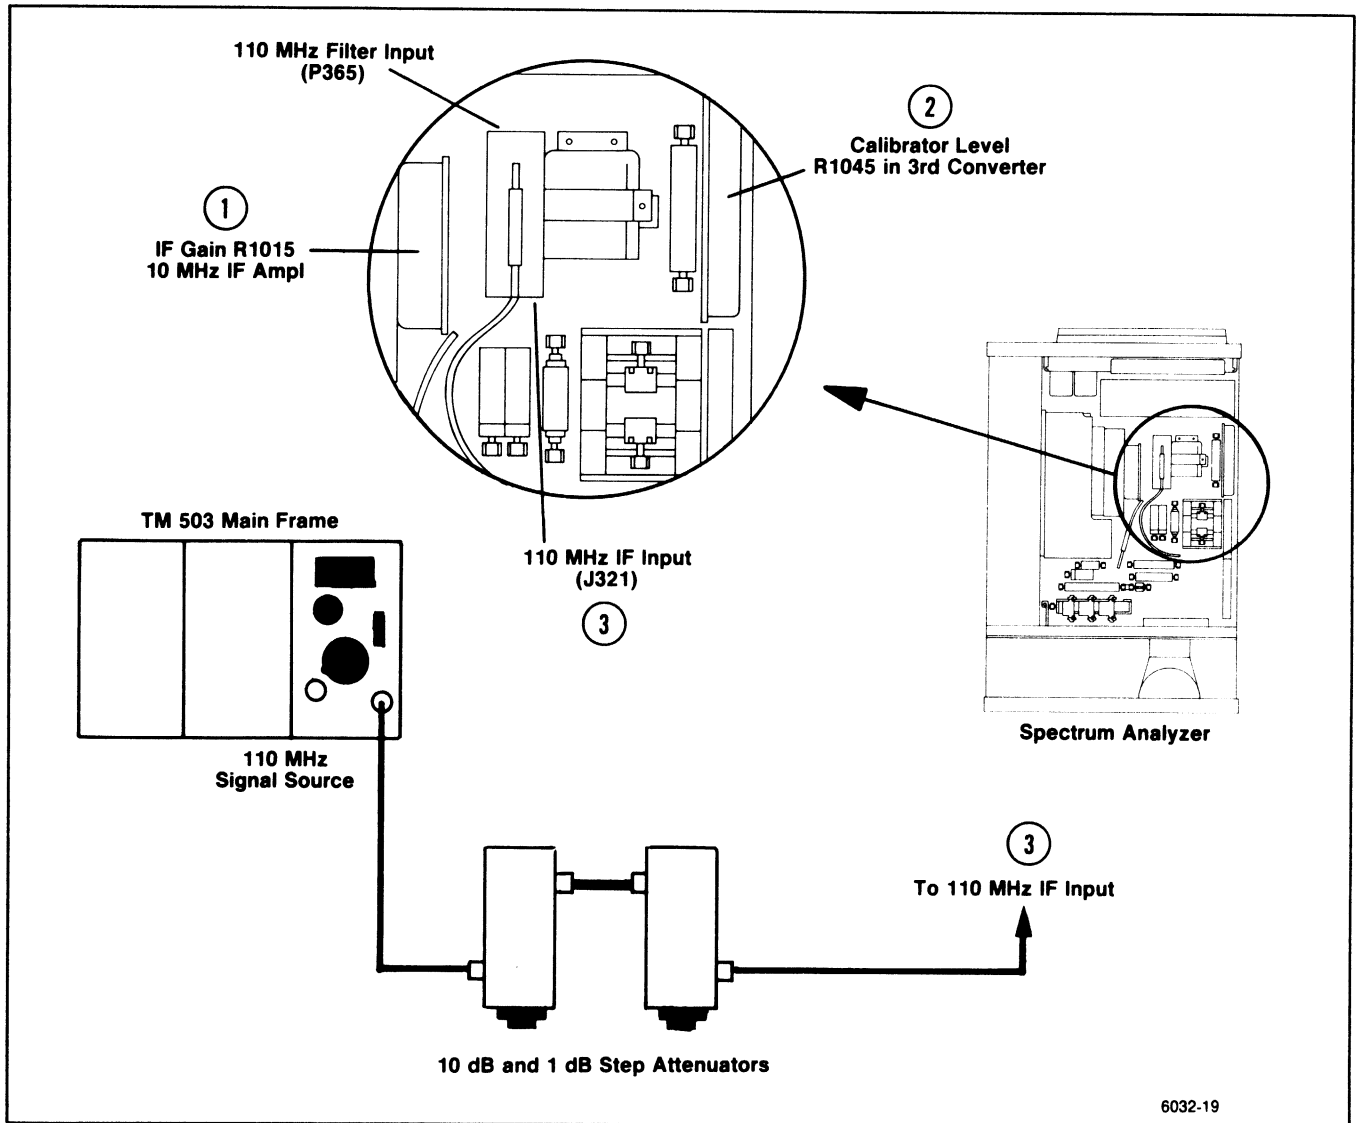

Figure 5-21. IF gain test setup, and adjustment and connector locations.
f. Adjust Cal Level R1041, in the 3rd converter (#2 in Figure 5-21) for no displacement between the CAL OUT signal and the reference (VIEW B and SAVE A displays).
a. Test equipment setup is shown in Figure 5-21. Set the RESOLUTION BANDWIDTH to 100 kHz, REF LEVEL to -20 dBm, and apply a -21.5 dBm, 110 MHz signal, through step attenuators, to the input (J365) of the 110 MHz filter.
d. Set the step attenuators for 21 dB attenuation and apply the 110 MHz signal to the input (J321) of the 110 MHz IF amplifier (Figure 5-21).